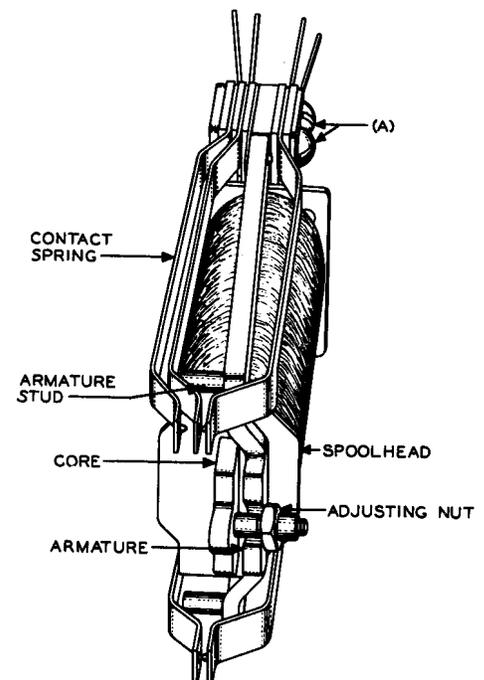

Fig. 1 - A-type Relay
2.03 Tightness of Spring Assembly: Fig. 1(A) - All springs in an assembly shall be held in their relative positions to one another and to the relay core by being securely fastened to the relay core at their bases. If it is found necessary to measure tightness of assembly, such tightness shall be considered as satisfactory if the springs in an assembly do not move in their mounting when a pressure of 680 grams (24 ounces) is applied in a vertical direction at the contact end of all springs in the same assembly taken together.